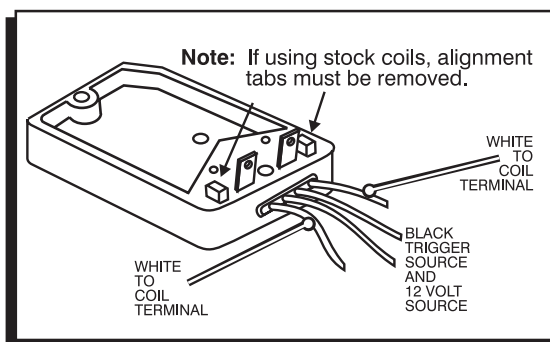

Figure 1 Interface Module Wiring.
The Black Wires are responsible for triggering the MSD and supplying a 12 volt ignition source (Figure 1).
9. If using original coils, the tabs must be removed (Figure 1). If using MSD Coil PN 8224, tabs do not need to be removed.